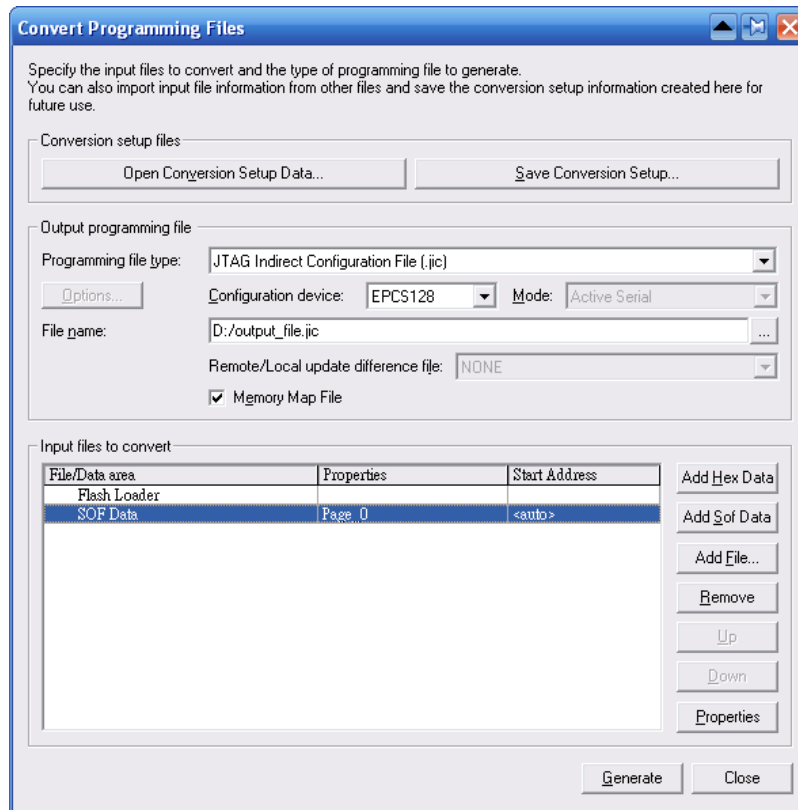

Figure C.1. Convert Programming Files Dialog Box
5. Highlight the SOF data in the Input files to convert section. See Figure C.1.